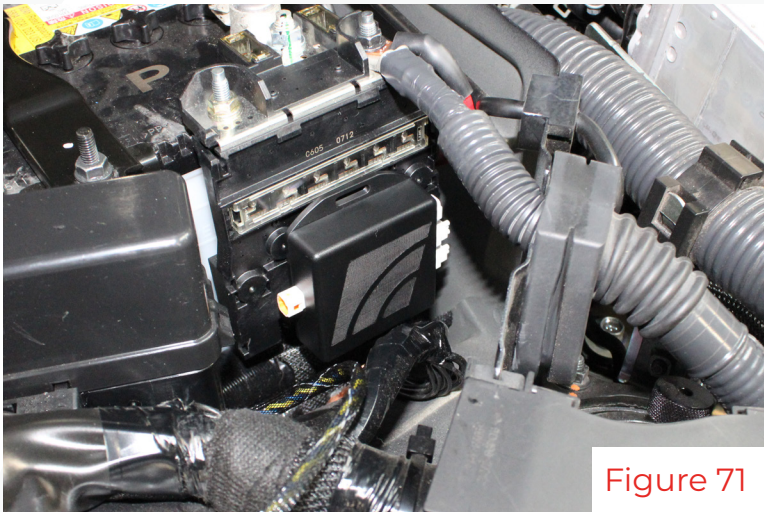

Figure 71
33. Adhere the Can module to the base of the multi-fuse on the battery as shown below. Plug in the 4-pin connector to the right side of the CAN module. (fig 71 & 72)